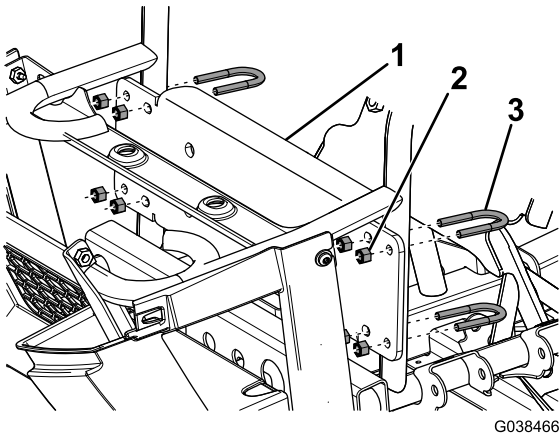

Figure 9
- Loosely secure the upper bracket to the vehicle using 4 small U-bolts and 8 locknuts (5/16 inch) as shown in Figure 9.